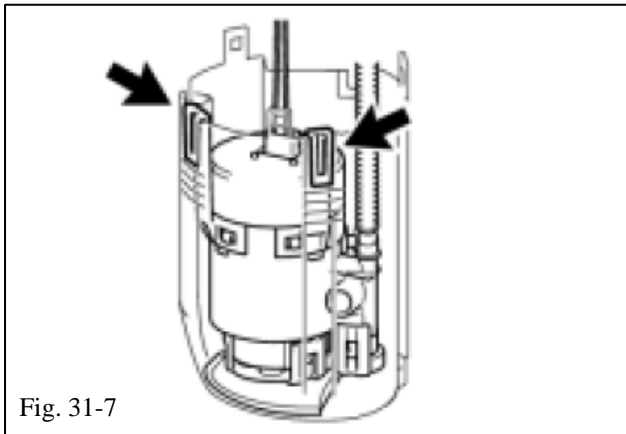

Fig. 31-7
- (g) Use a small screwdriver to detach the 2 claws from the claw holes and remove the sub tank (Fig. 31-7).